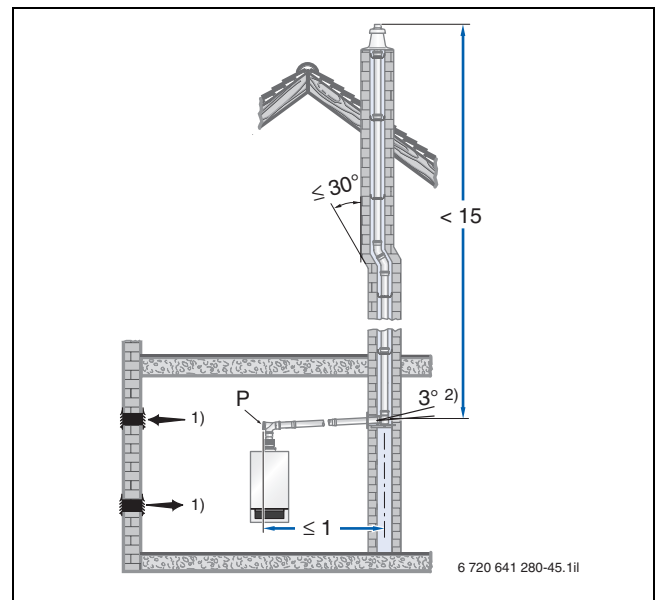
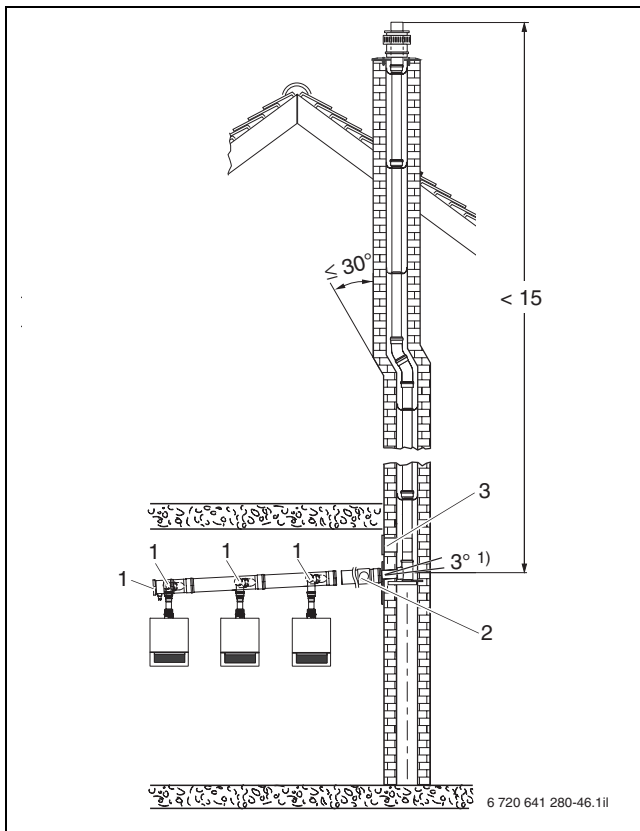

Fig. 98 Example with the inspection aperture (P) located in a horizontal flue without diversions in the installation room (dim. in m)
Fig. 99 Example with the inspection aperture located in a cascade (dim. in m)
According to DIN 18160-1 and DIN 18160-5, flue systems for open flue operation must be able to be inspected and cleaned easily and safely. For this, allow for inspection apertures (→ fig. 98 and fig. 99).
- At the face of the straight horizontal flue section, no further than 1 m from the diversion into the vertical section, subject to there being no diversion in between (→ fig. 98, page 114) **or**
- In the side of the horizontal section of the flue, no further than 30 cm from the diversion into the vertical section (→ fig. 99, pos. 4).
- The lower inspection aperture at DN160 and DN200 is arranged in accordance with fig. 99, pos. 3.
- The lower inspection aperture is implemented in accordance with DIN 18160-1 and 18160-5 (→ fig. 98 and fig. 99).